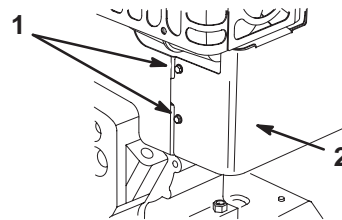

Figure 18
If you operate the engine when the air temperature is above 40°F (4°C), remove the carburetor heater box (Fig. 18).
1. Disconnect the wire from the spark plug and ensure that the wire does not contact the plug (Fig. 18).
4. Remove two screws that secure the carburetor heater box in place (Fig. 18).